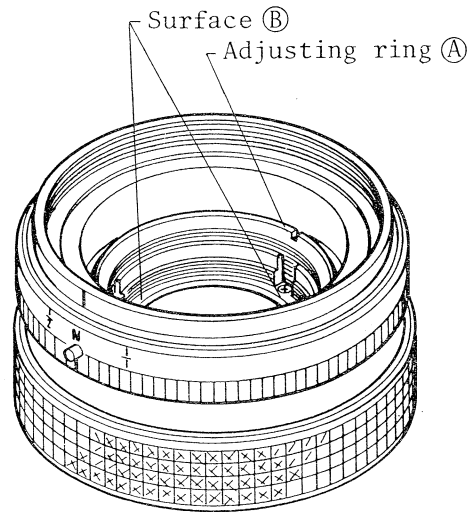

Fig.31
1. First attach ⑧ LF611-4001 magnification ring but not tighten its set screws. Then attach ⑥ LF611-262S1 floating adjust ring and tighten its three 3PB1.4x3.5BNi screws.
2. Remove LF611021 middle lens. Insert the SLS-39 block gauge 19.5mm into the barrel as shown in Fig. 31 and then set helicoid to infinity.
3. Make surface ⑧ of LF611-262S1 as quite same height as the block gauge by turning the floating adjust ring ⑨.